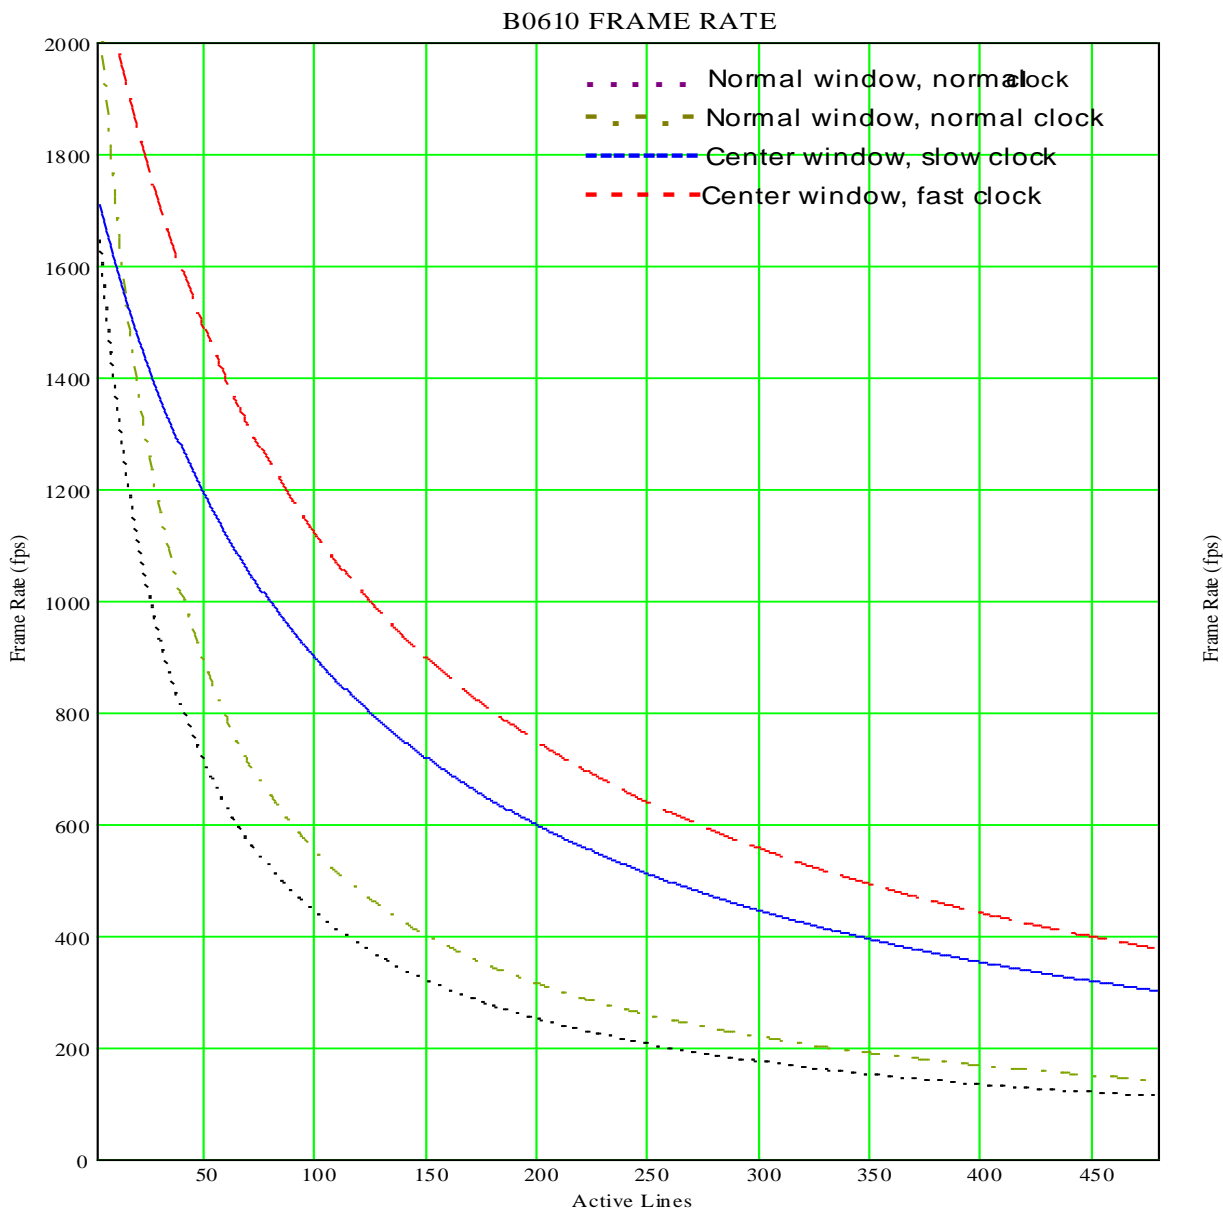

Figure 2.10a – Frame rate vs. vertical window size for B0610
When camera frame rate changes with the size of the vertical window, the resulting frame rate (FR) for each camera is shown on figure 2.10a – 2.10fg. The camera uses an adaptive algorithm for the frame rate change, so it is difficult to put a simple formula for the frame rate calculation. The camera will calculate and display the actual frame rate at any vertical window selection.
This figure shows the speed in dual output only. The speed in single output is identical to B0610 – Figure 2.10a.